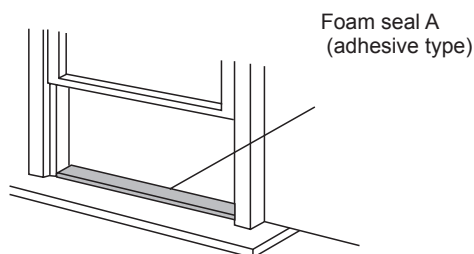

Fig. 10
1. Cut the foam seal (adhesive type) to the proper length and attach it to the window stool. Fig.10.